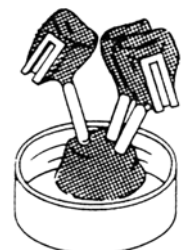

Fig. 7
10. Sprue so that the alloy will not flow directly towards the attachment. Place the pattern to provide easy access to the female when investing (Fig. 7) A direct spruing technique can be used for some single units, but an indirect technique will give you better castings.